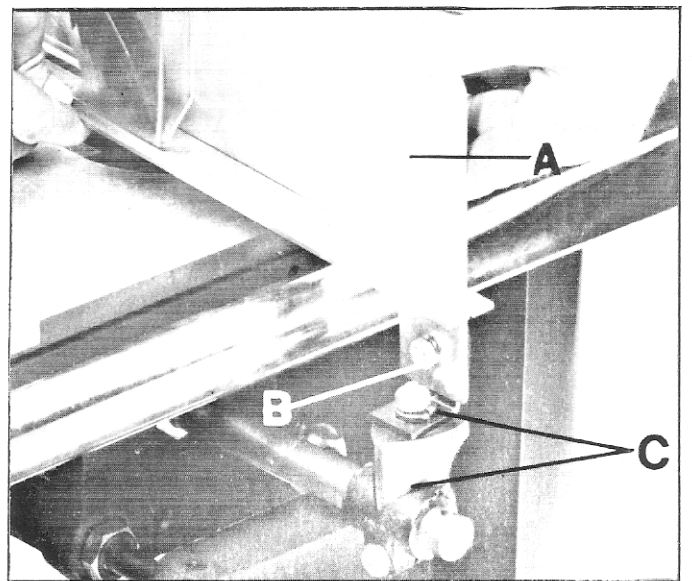

Fig. 22
7. Remove nut, screw and lockwasher (B) Fig. 22, from the rear splitter bracket and assemble the splitter (A) to the bracket using the screw, nut and lockwasher (A).
8. Replace saw blade and using a straight edge make sure the splitter (A) Fig. 22, is in alignment with the saw blade, as shown. If necessary, the rear mounting bracket assembly (C) can be adjusted to bring the splitter into alignment with the saw blade.